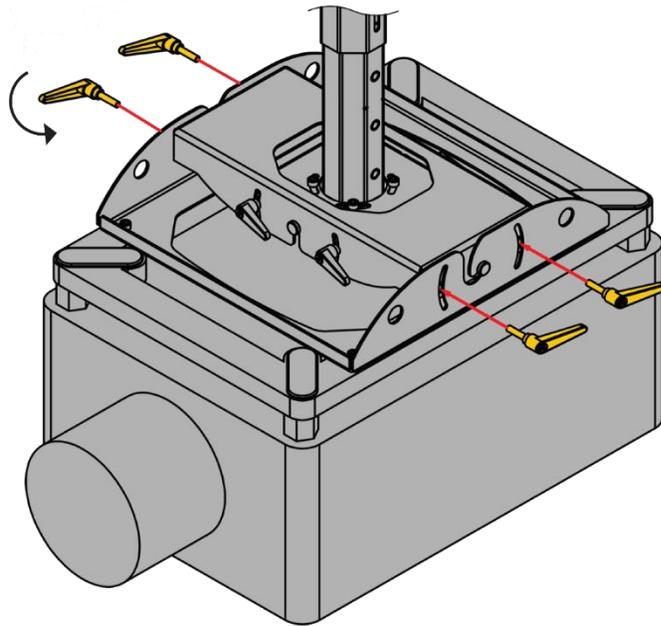

Figure 86:
Step 12: Tighten the projector plate ⑥ to the middle plate ⑤ by using the clamping handles ⑨ (4 pcs.), as shown in **Figure 86**.